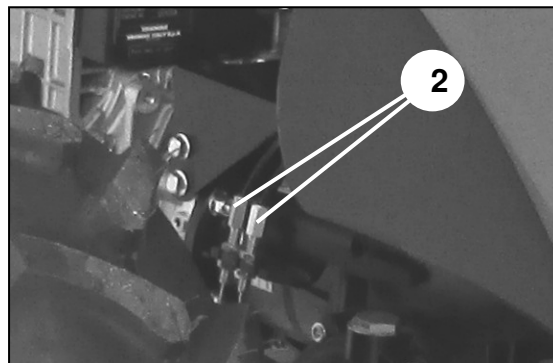

fig.6/2
- 6 - Engine RPM adjustment (fig.6/3) (see specific manual of the engine)